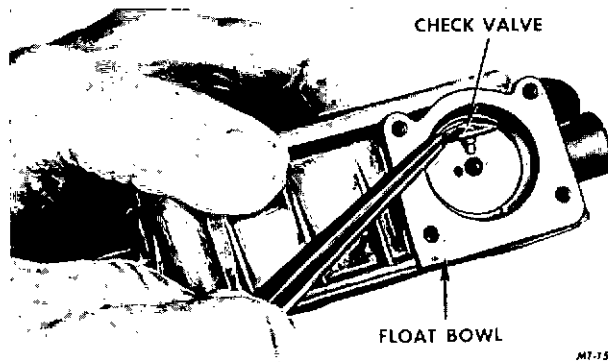

FIG. 34 Removal or Installation of the Plastic Pump Intake Check Valve
10. Remove fuel inlet fitting with screen or filter and gasket (Figure 34).
13. Remove the plastic accelerator pump inlet check valve (Figure 34). **NOTE: THE BALL TYPE INLET CHECK VALVE IS NOT REMOVABLE.**
1. Install plastic accelerator pump check valve in fuel bowl (Figure 34) (if used).